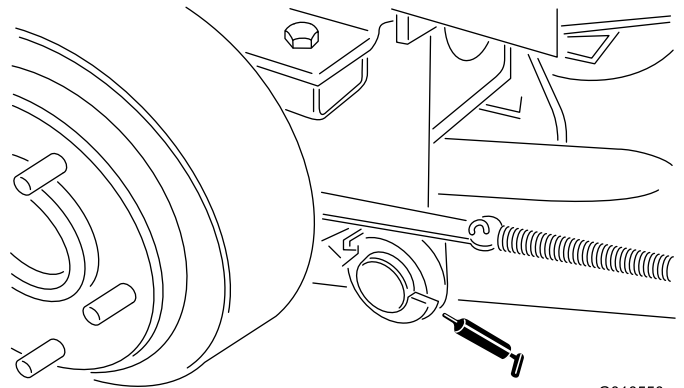

Figure 29
- Right and left lift-arm pivot pins (Figure 29)